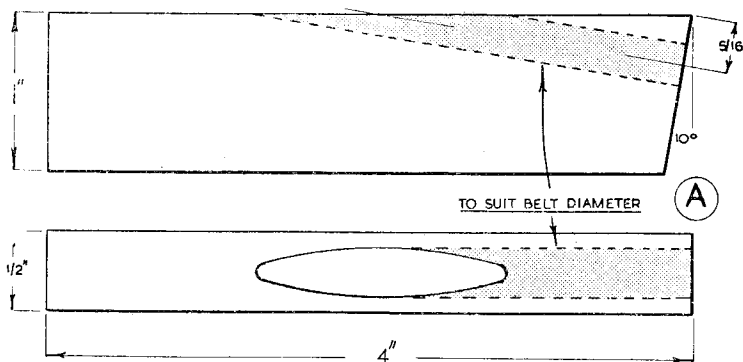

Fig. 3. Details of the planing block
To make sure of doing the work correctly, the small planing block and plane illustrated were made from scrap ends of material. The block (A), Fig. 3, was made from a length of mild-steel ; this was gripped in the lathe toolpost so that the end could be milled flat and at an angle of 10 deg. with the long axis. After drilling the end with a centre-drill, the passage for the belt was drilled out at the same setting to the finished size. As a result of careful feeding, the drill did not wander after the point had